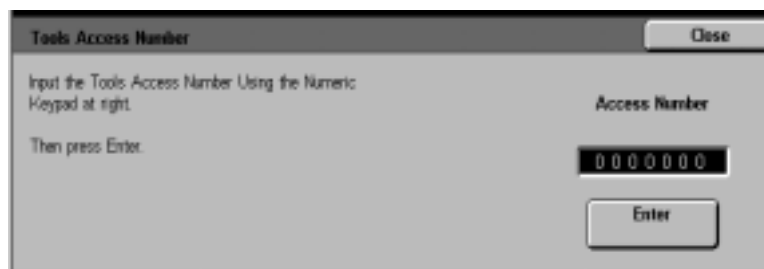

Figure 4: Tools Access Number screen
- 2 Touch the **Tools** button to display the **Tools Access Number** screen, as illustrated in Figure 4.